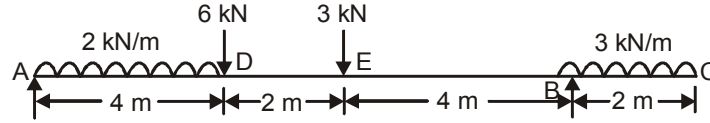

Fig. 2
(c) Draw the shear force and bending moment diagrams for the beam shown in fig. 2 (20)